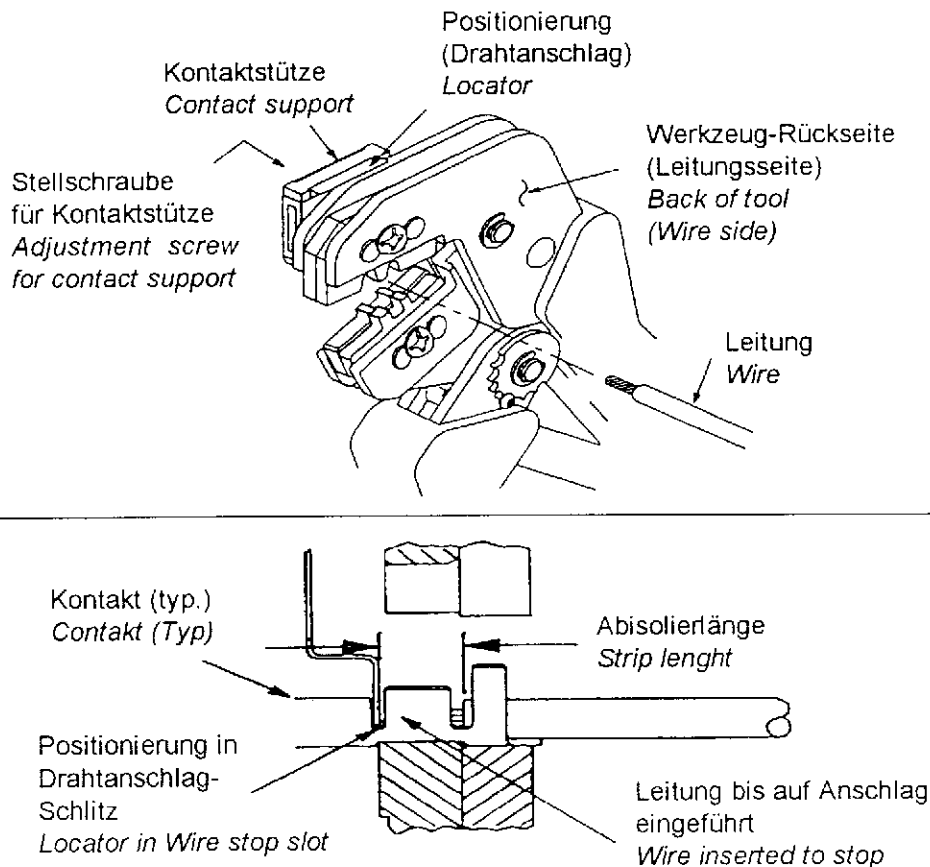

Figure 3
Refer to the table in Figure 1a and select wire of the specified size and insulation diameter. Strip the wire to the length indicated in Figure 1a, taking care not to and identify the appropriate crimp section according to the wire size marking on the tool. Refer to Figure 3 and proceed as follows:
3. Position the contact so that the mating end of the contact is on the locator side of the tool, and so that the open "U" of the wire and insulation barrels face the top of the tool. Place the contact up into the nest so that the movable locator drops into the slot in the contact. Refer to Figure 3. Butt the front end of the wire barrel against the movable locator.
5. *Insert stripped wire into contact insulation and wire barrel until it is butted against the wire stop, as shown in Figure 3.*
The crimped contact may stick in the crimping area, but the contact can be easily removed by pushing downward on the top of the locator (see Figure 3).